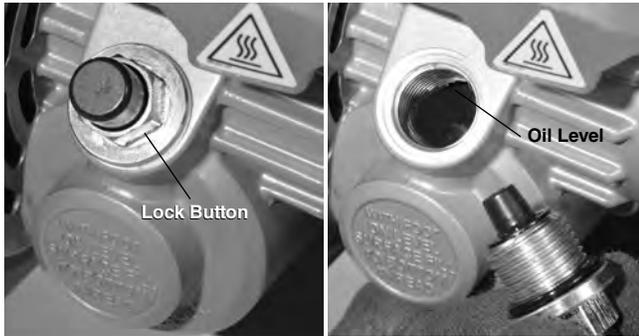

Figure 19 – Gearbox Lubrication
Check oil level, it should never be below bottom threads in the housing. Add heavy-duty worm drive saw lubricant oil as necessary, fill until oil reaches bottom threads of housing. Only use heavy-duty worm drive saw lubricant (catalog #69933) – other oils may not properly lubricate the worm gear and could damage the saw. Do not overfill. Install oil plug/lock button assembly (Figure 19).
2. Press and hold the oil plug/lock button to lock the saw blade (see Figure 19).